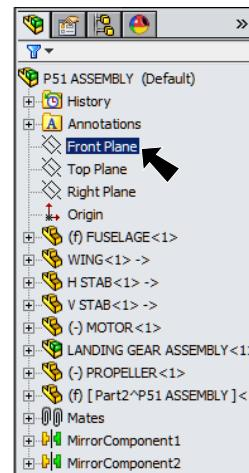

Fig. 1
Step 3. Click **Front Plane**  in the Feature Manager, Fig. 1.